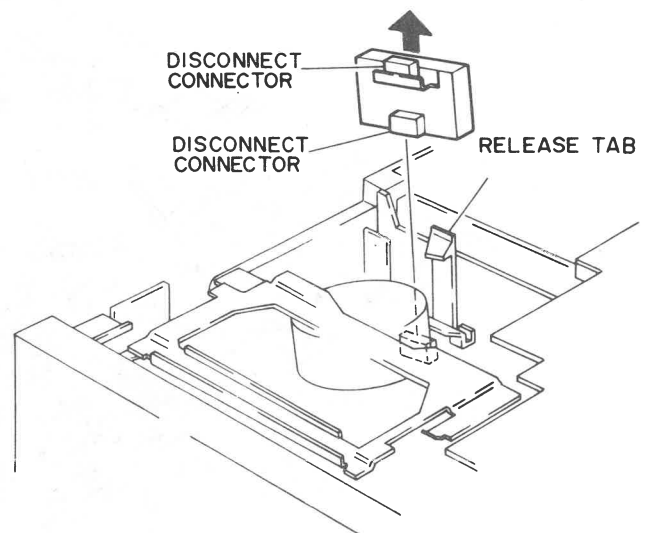

Fig. 8 Pre-amp/Head Switch Circuit Board Removal
### Pre-amp/Head Switch Circuit Board Removal (Fig. 8)
1. Remove the top cover and refer to Fig. 8.